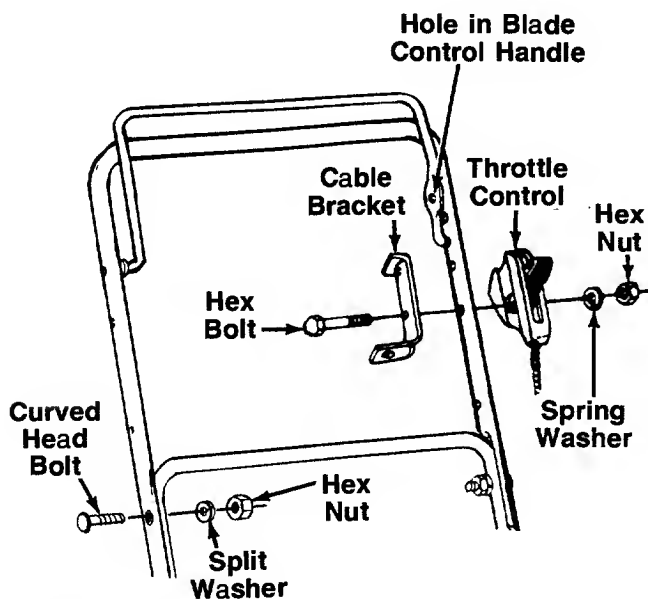

FIGURE 2.
2. Secure the upper handle to the lower handle using the curved head bolts, split washers and hex nuts as shown in figure 2.
The throttle control is already attached to the engine. Attach the cable bracket and throttle control to the **left** side of upper handle as follows. See figure 2.